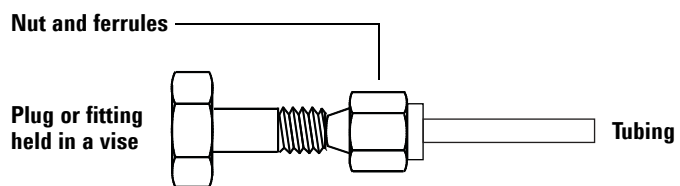

Figure 10 Assembling the fitting
- 3 Push the tubing into the stainless steel plug (Figure 10).